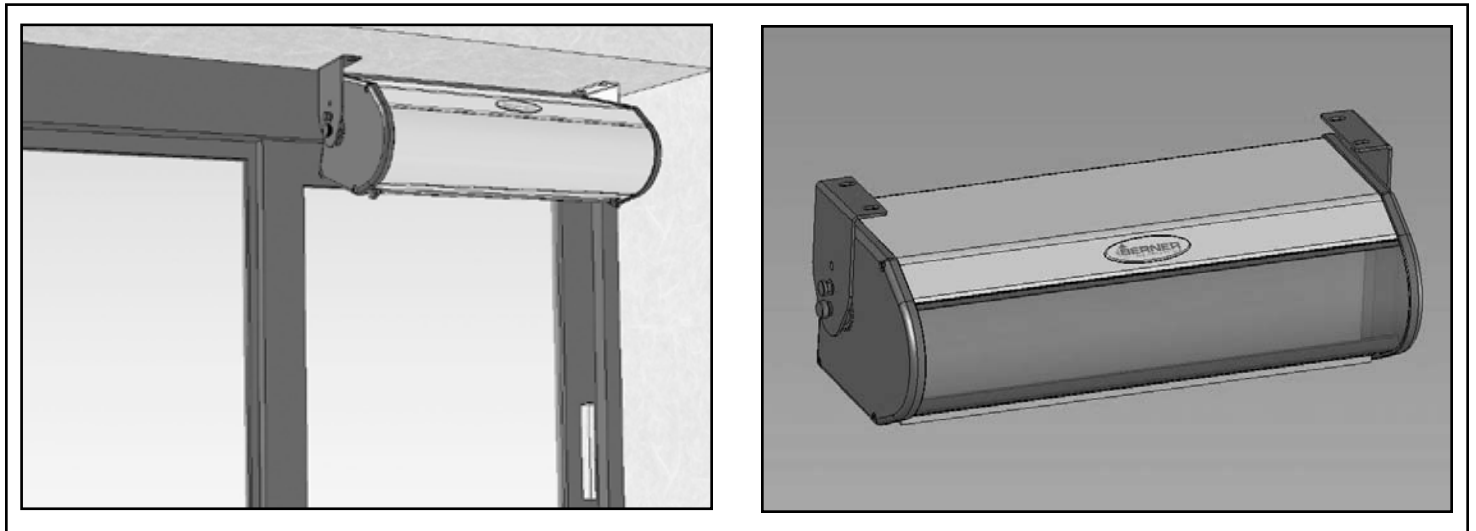
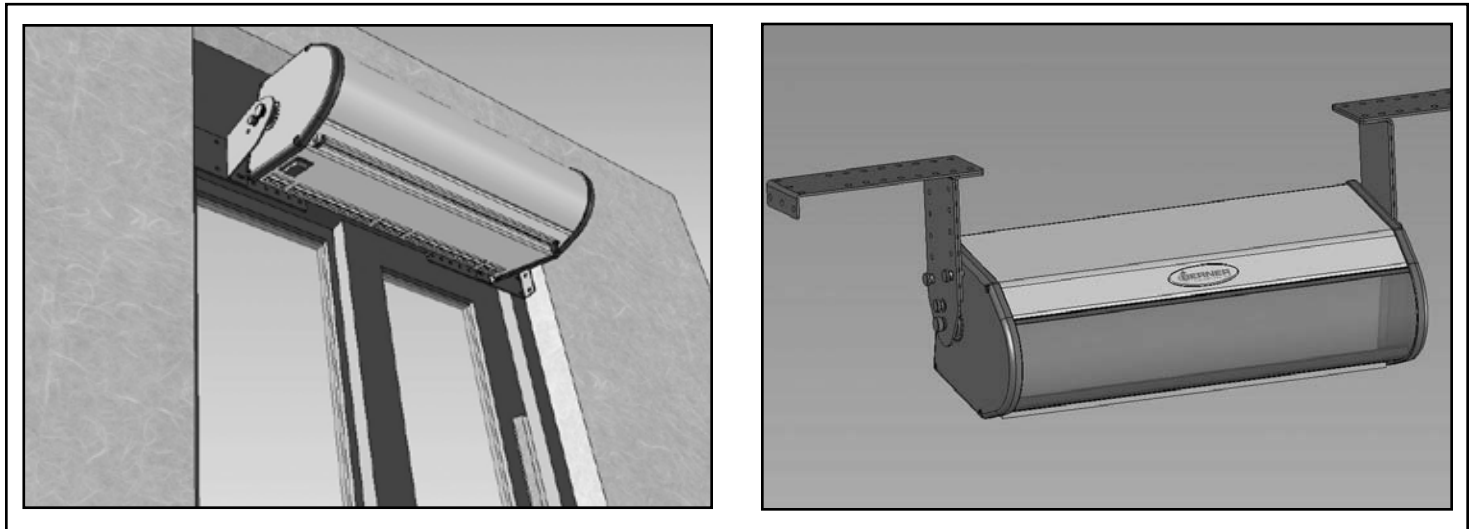
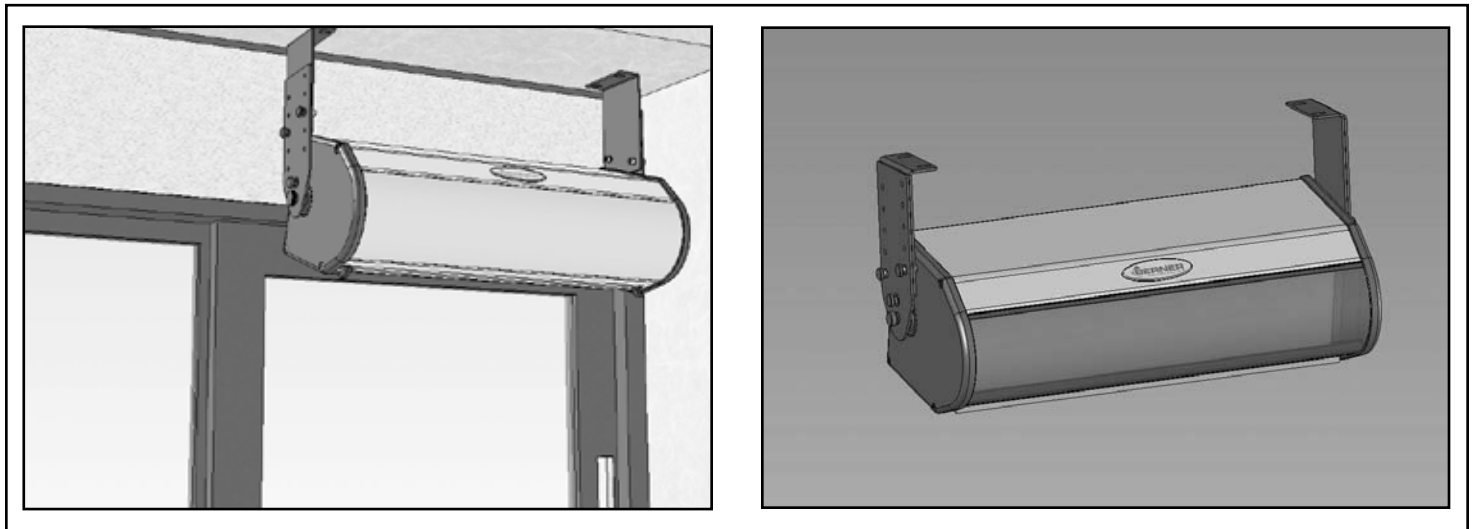

FIGURE 1 -Standard Brackets
FIGURE 2 -Spanning Brackets (works with both standard and adjustable extension brackets)
FIGURE 3 -Adjustable Extension Brackets (optional, must be ordered separately by special order)
The Drive-Thru Unit air door is shipped with a variety of wall mounting options. Included in standard orders are standard brackets (See Figure 1) and spanning legs (See Figure 2). Adjustable brackets (See Figure 3) available by special order.
- A. Check the rating nameplate on the top of the unit for supply voltage and current requirements (See Figure 2). Unheated units may be plugged into any 15 or 20 amp receptacle. **Heated units require a dedicated 20 amp receptacle and circuit.** A disconnect switch for each branch circuit is a required part of this installation (See Table 2).